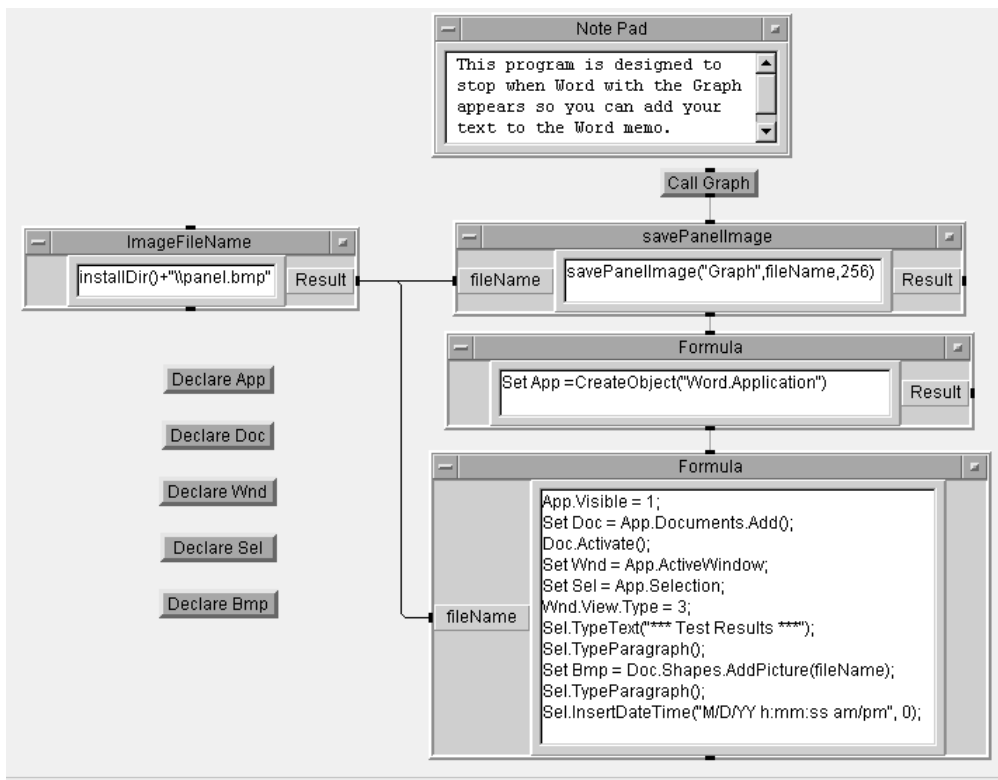

Figure 9.12. The complete Lab 9.3 program
25. Enter the formula statements shown in the box of Figure 9.12 below; connect the output and sequence pins as shown.